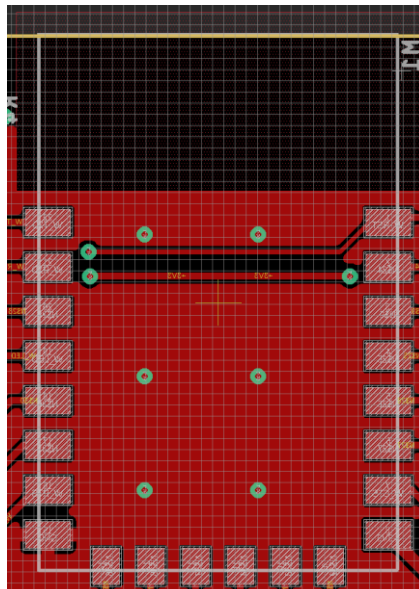
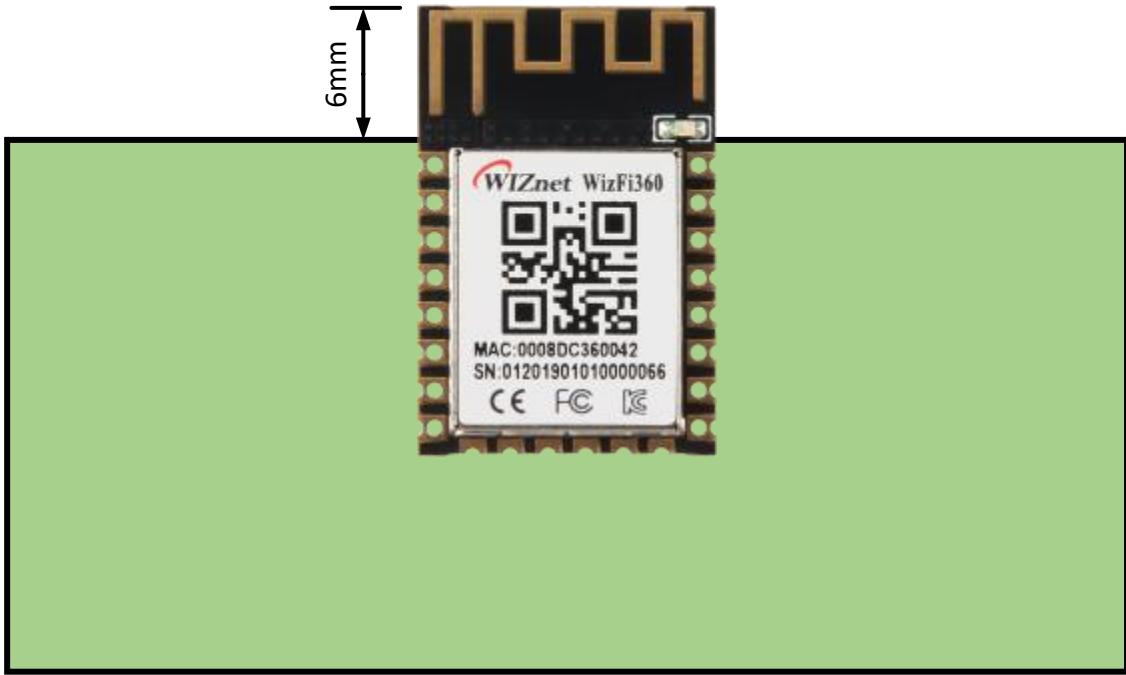

Figure 6. GND
Figure 7. Best Placement 1
- Figures. 6 and Figures. 7 are 2 antenna placement which can best performance of antenna. We suggest customers to choose one of these 2 modes to design the placement. For the second placement mode, PCB antenna should be at least 5.0mm from both sides of the bottom board.